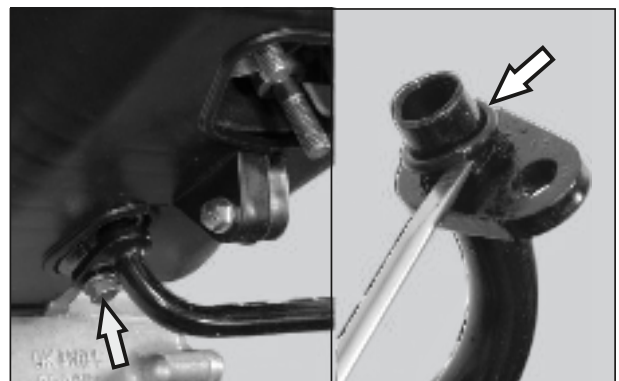

Fig. 3.166
- If any damage on the O ring replace the O ring with new one.( Fig. 3.166)